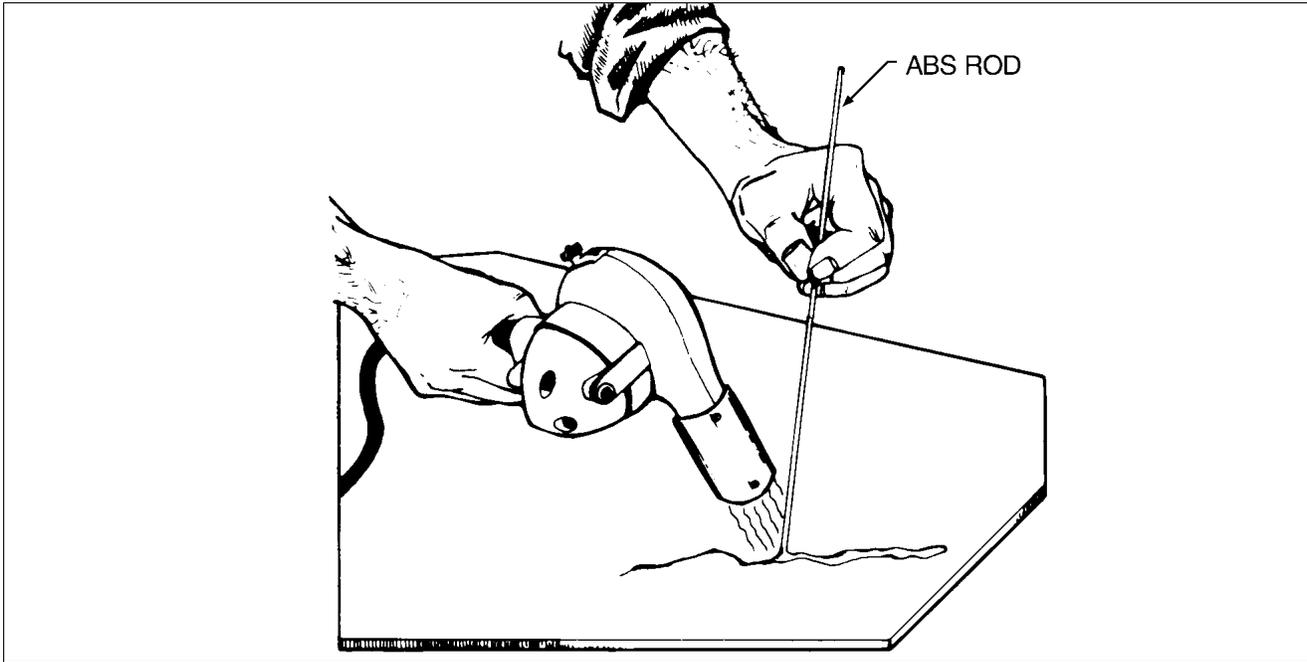

Figure 51-5. Welding Repair Method
- (8) For repairs in areas involving little or no shear stress, hot melt adhesives, polyamids which are supplied in stick form may be used. This type of repair has a low cohesive strength factor.
- (9) For repairs in areas involving small holes, indentations or cracks in material where high stress is apparent or thin walled sections are used, welding method is suggested.
- (10) Welding method requires a hot air gun and ABS rods. To weld, gun should be held to direct flow of hot air into fusion (repair) zone, heating damaged area and rod simultaneously. Gun should be moved continuously in a fanning motion to prevent discoloration of material. Pressure must be maintained on rod to insure good adhesion. (Refer to Figure 51-5.)
- (11) After repair is completed, sanding is allowed to obtain surface finish of acceptable appearance.